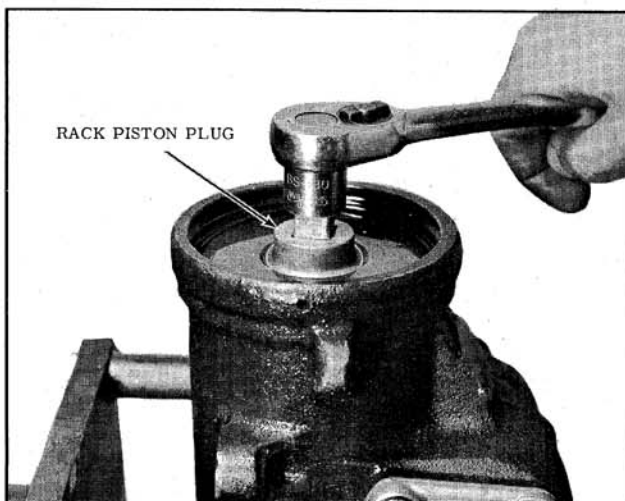

Fig. 8-44 Removing Rack-Piston Plug
3. Remove the rack-piston plug from rack-piston as shown in Fig. 8-44.